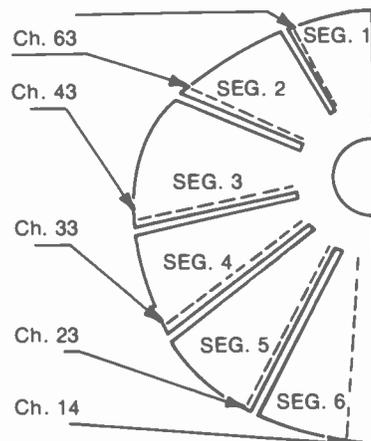

FIGURE 24-31 SEGMENTS ON ROTOR BLADE OF EACH CAPACITOR IN UHF TUNER. (RCA KRK 152)
**UHF alignment.** A variable air capacitor used in UHF tuners usually has segments on the rotor blade, as shown in Fig. 24-31. These can be adjusted for the rf signal circuits and the oscillator. It should be noted, though, that some UHF tuners are factory-sealed because they are not to be aligned in the field.